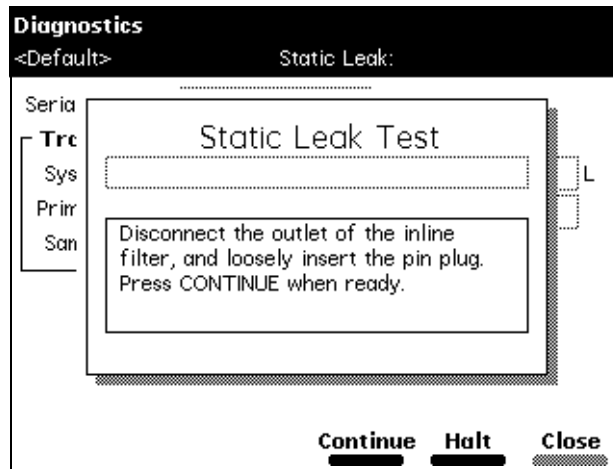

Figure 8-11 Static Leak Test Screen
1. Select **Static Leak Test** in the Other Diagnostics screen, then press the **OK** screen key. The Static Leak Test screen appears (Figure 8-11).